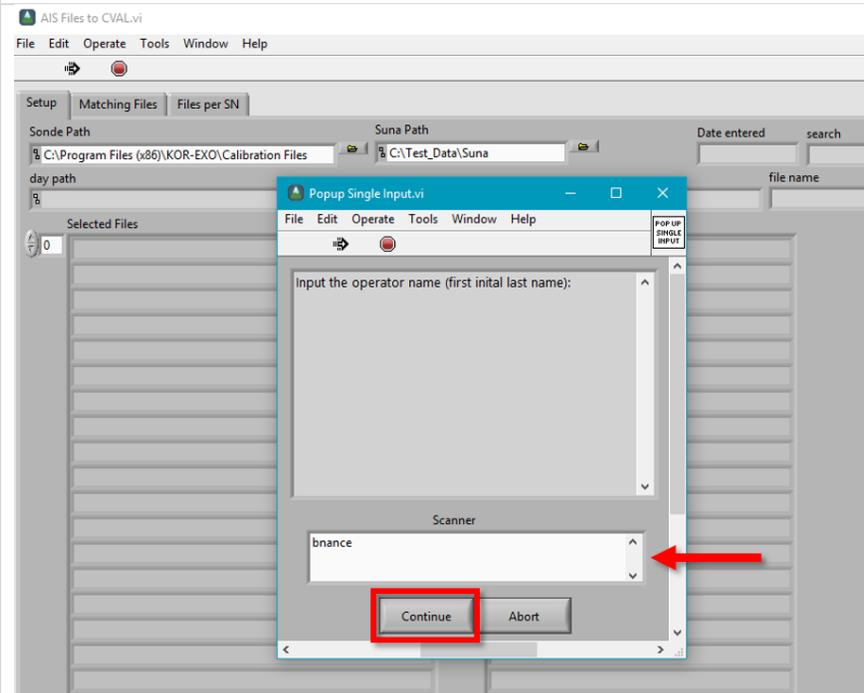

Figure 143. Input operator name
**STEP 4** | Follow the prompts. Input operator name in the following order: **first initial last name** (Figure 143). (Your Battelle Ecology username.)